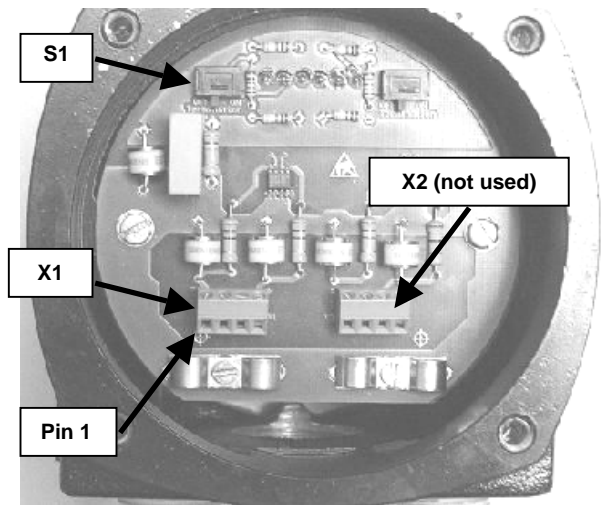

Figure 4-4
- Connect incoming Modbus cable to X1 Pins1&2 (figure 4-4).
- Connect outgoing Modbus cable to X1 Pins 3&4 (figure 4-4).
The Modbus connection board provides a 120 ohm termination resistor that can be switched ON and OFF with switch S1 (figure 4-4). The termination resistor should be switched ON only if the actuator is the first or last node on the bus and no other termination resistors are installed elsewhere on the bus.